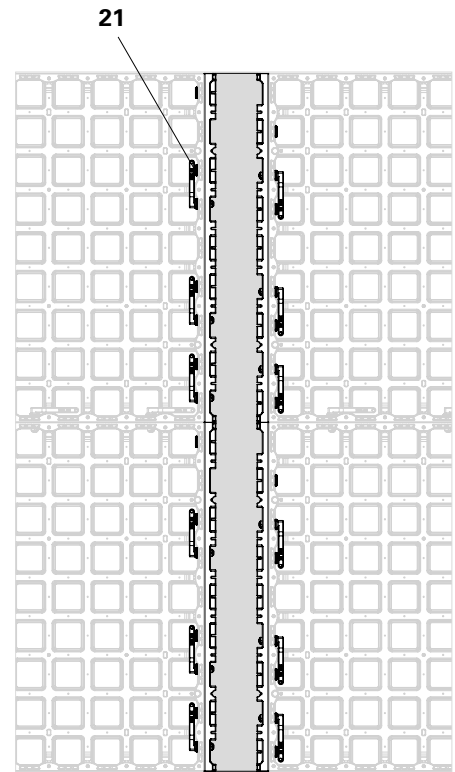

Fig. B8.06a
1. Mount the filler support (16) on both panels using 6 DUO couplers (21) each! (Fig. B8.06a)
2. Cut the 18 mm filler plate (60) 2 cm narrower than the length to be compensated.